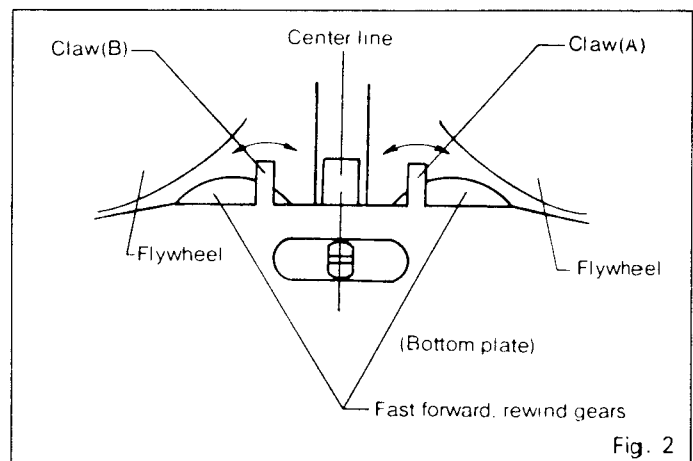

Fig. 2
2. Fast Forward, Rewind Gear Alignment (See Fig. 2)